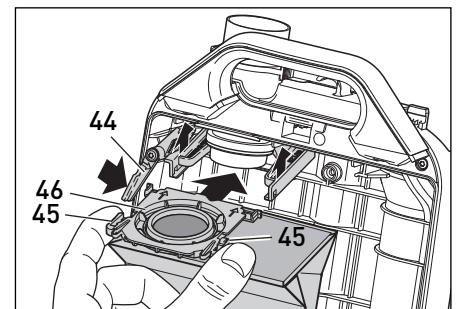

Figure 17
When the “bag full” warning indicator (4 - figure 15) turns orange, and there is not a clog, change the filter bag. To remove the filter bag, push the cover release button (19 - figure 16) and lift the cover (24) up to remove. Push the lever over to the right (44 - figure 17). Squeeze the clamps (45) on both sides of the filter bag sealing plate (46), slide the plate from the holder and push the cap on to seal the bag. Slide the sealing plate (46) of a new bag into the holder and push it in until it locks into place. You may find it convenient to store the bag cap inside the bag housing below the filter bag. Make sure the bag is tucked in at the bottom. To replace the cover, insert the projections on each side of the bottom of the cover into the corresponding slots at the base of the housing. Close the cover ensuring that the cover “clicks” shut.